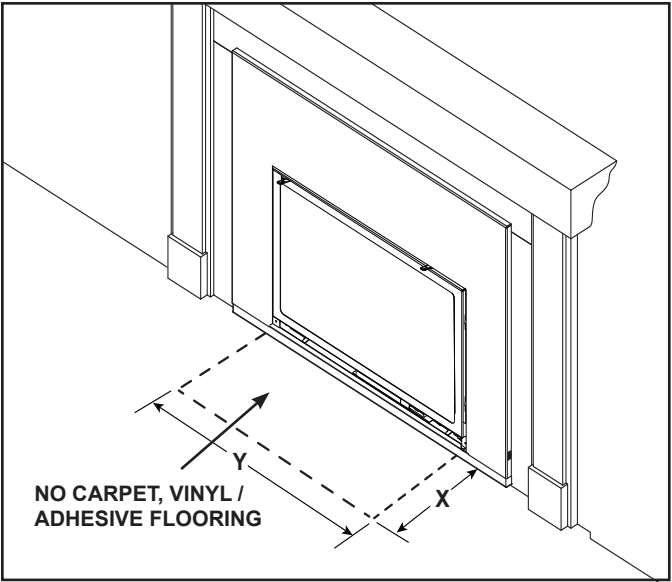

Figure 8.5 Hearth - Combustible Material Exception
- Combustible flooring may be located in front of the appliance. Exception - no carpet / vinyl, adhesive flooring. See Figure 8.5.